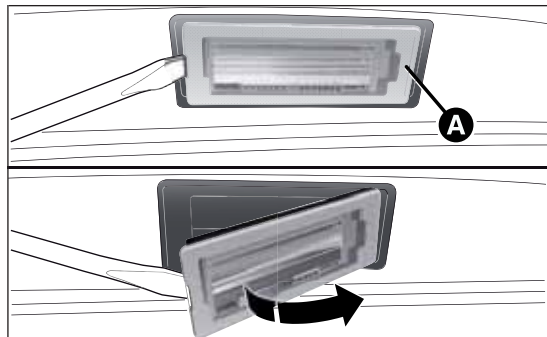

fig. 137
- ☐ remove lens A fig. 137;
- ☐ refit the lens A fig. 137.